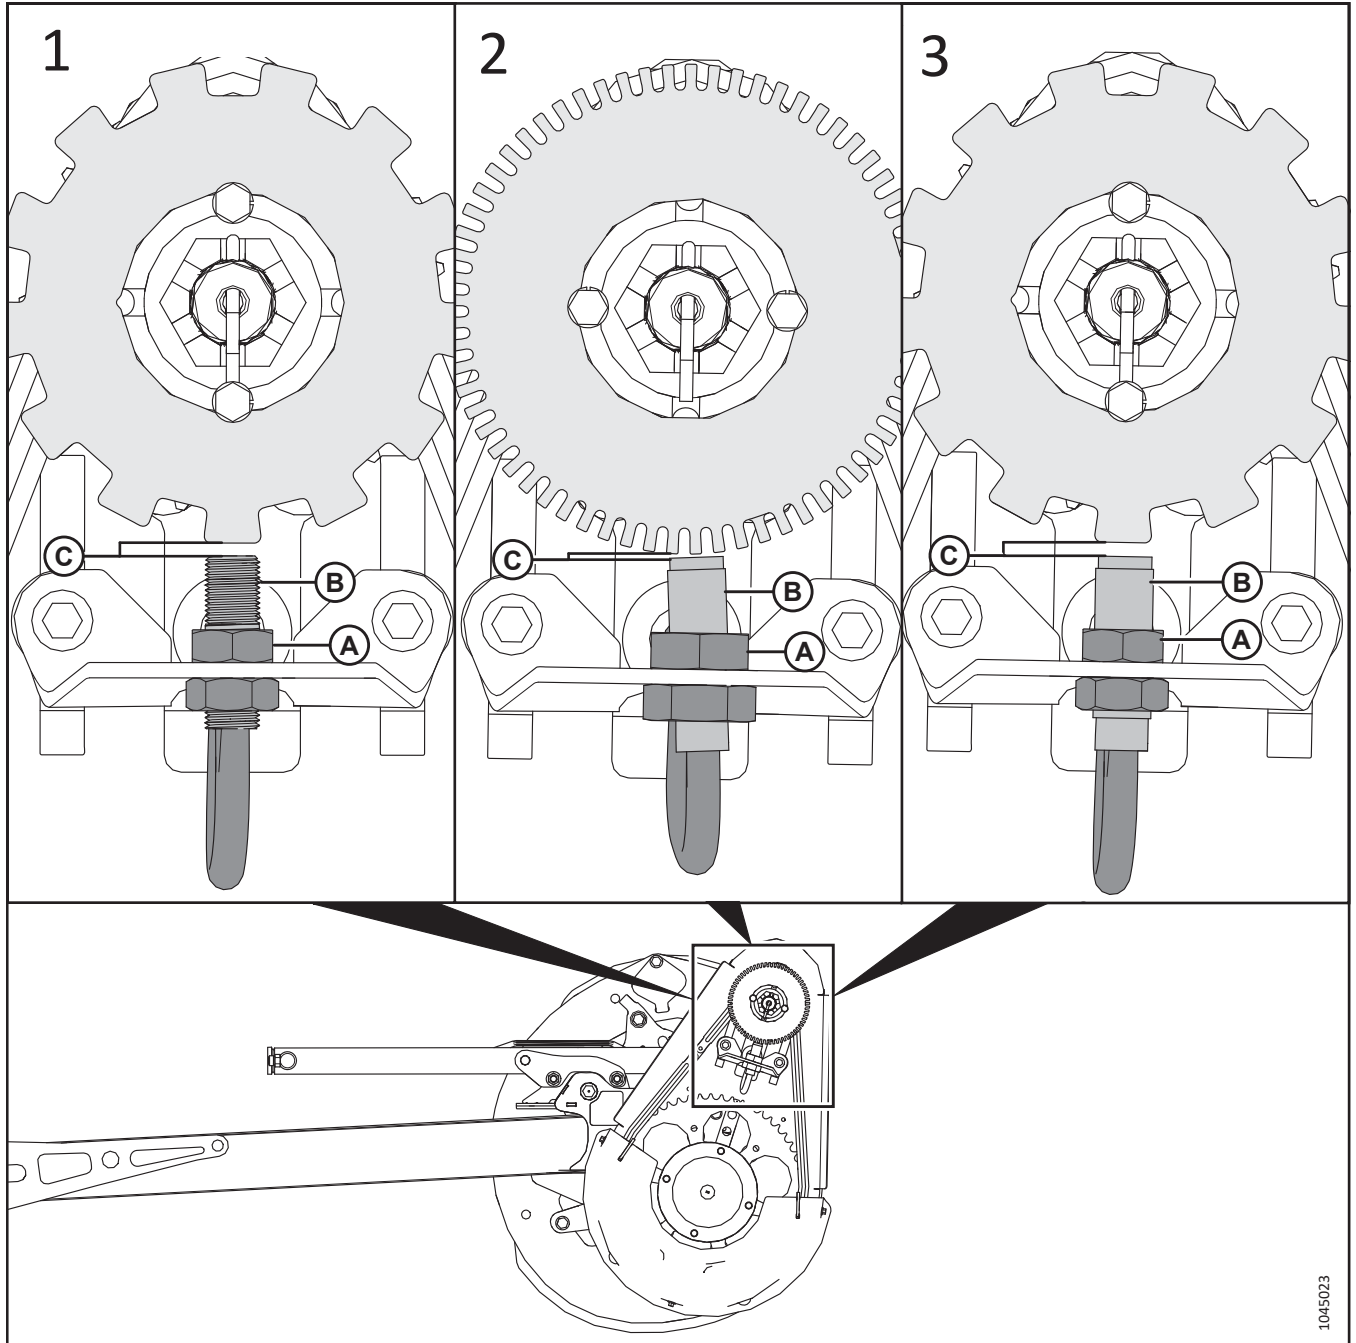

Figure 4.335: Reel Speed Sensor and Disc Configurations
6. Remove the top nut from the new sensor and position sensor (B) onto the support. Secure it with top nut (A).
7. Use Table and Figure 4.335, page 463 to determine the sensor type for the combine, and adjust the sensor nuts to set gap (C) to the following specification: